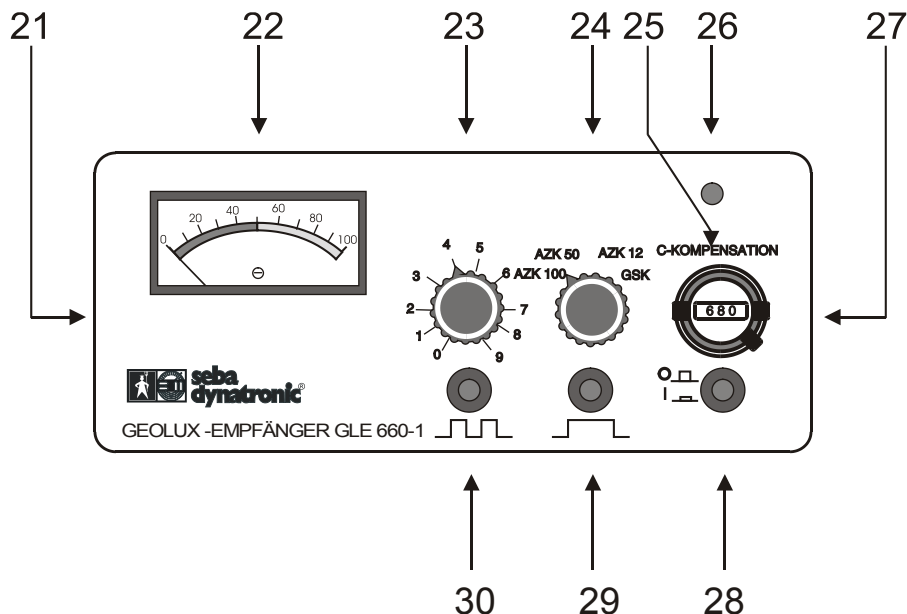

Figure 5 : Front connection panel of the receiver GLE 660-1
As shown in figure 5, the receiver is switched on by pressing the luminous pushbutton (28), lighting up a red lamp. Simultaneously, for approx. 2 seconds, the automatic battery check is carried out. The result is indicated on the meter (22).
To synchronize the receiver GLE 660-1, place its bottom on the operating panel of the generator GLS 660-1 so that the opto coupler mounted at the bottom of the receiver picks up the light signals of the pilot lamp (8). See figure 5. On switching on, the receiver is synchronized. After the synchronisation, the pulse indicators (8) generator and (26) receiver must light up simultaneously.